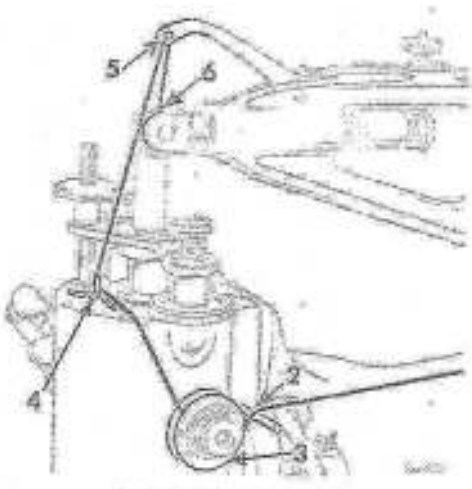

Fig. 21. Upper thread for Darning
3. Pass thread over the pin 2 near the tension discs in front of the arm and from right to left under and between the tension discs 3, Fig. 21.